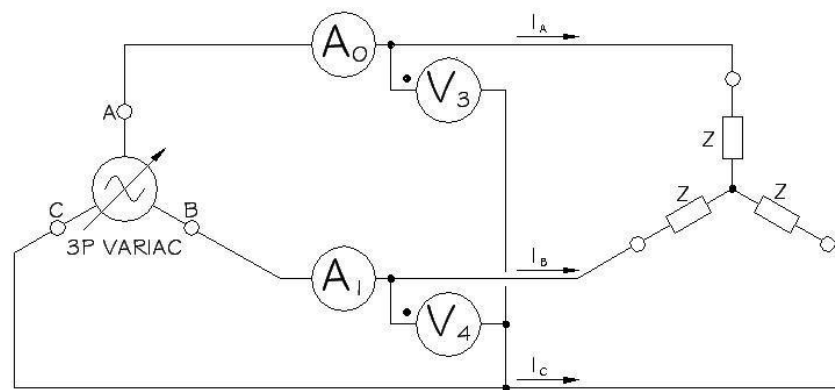

Figure 1. Balanced Y-Connected Impedances connected to a Y-Connected Source
Shown in **Figure 1** are balanced wye-connected impedances connected to a wye-connected generator. However, the connection (wye or delta) of the load or generator does not affect the power relationships for balanced three-phase circuits.
Thus two wattmeters connected as in **Figure 1** can be used to determine all three-phase quantities including the power factor of the system. It is not critical whether the wattmeters are connected in lines A and B (as shown in **Figure 1**), lines B and C, or lines A and C.
4. **Two Wattmeter Method** – Change the configuration of the voltage/current measurement devices to the two watt-meter method as shown in **Figure 1**. Measure both resistive and resistive/inductive three-phase loads at 60V and 120V. Note that the *phase* voltages should be 60V and 120V, but the two-wattmeter measurement is looking at *line* voltages, so be sure to set the voltage correctly. For each load determine the following quantities: three-phase P and Q, θ , PF (lag/lead), R, Z, and X. Does the total three-phase power measured with the two-wattmeter method match the total three-phase power measured in the previous step?